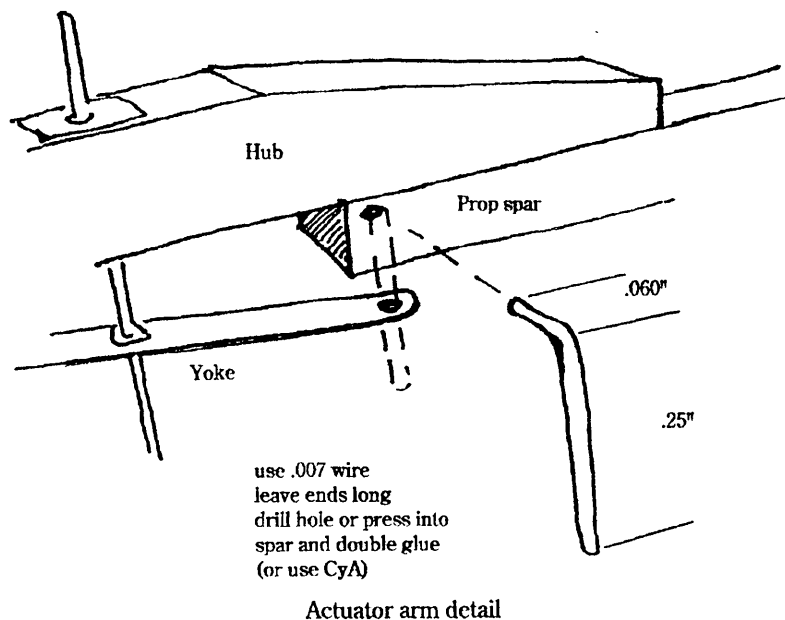

FIG. 5
5. The actuator arms are added to the spars now. Use the shaft / yoke assembly to space the actuator arms. They go on opposite sides of the hinges as shown in fig. 5.